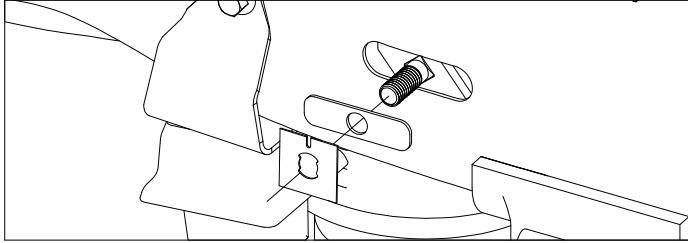

Figure A11: View looking into driver side wheel well.
- 15. Install rear carriage bolt.** Pass the carriage bolt and locking strap into the frame through the forward mounting slot and pull the fish wire until the threaded end of the carriage bolt is through the locking strap and has passed out of the rear mounting slot. Install a rectangular frame spacer onto the carriage bolt and place it into the slot in the frame. Install a retainer onto the carriage bolt until it is snug, see Figure A11.